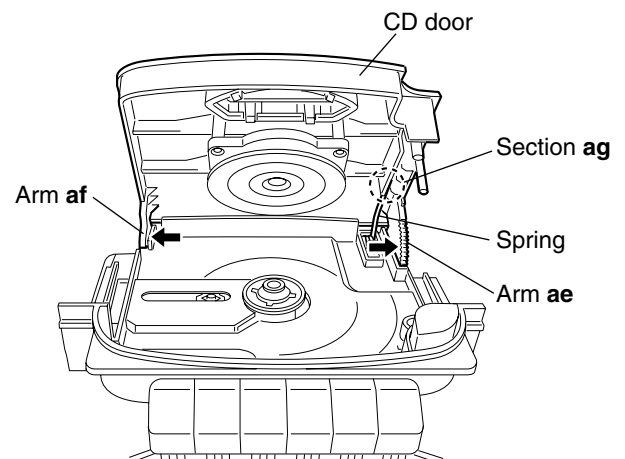

Fig.28
■ Removing the CD door (See Fig. 28.)